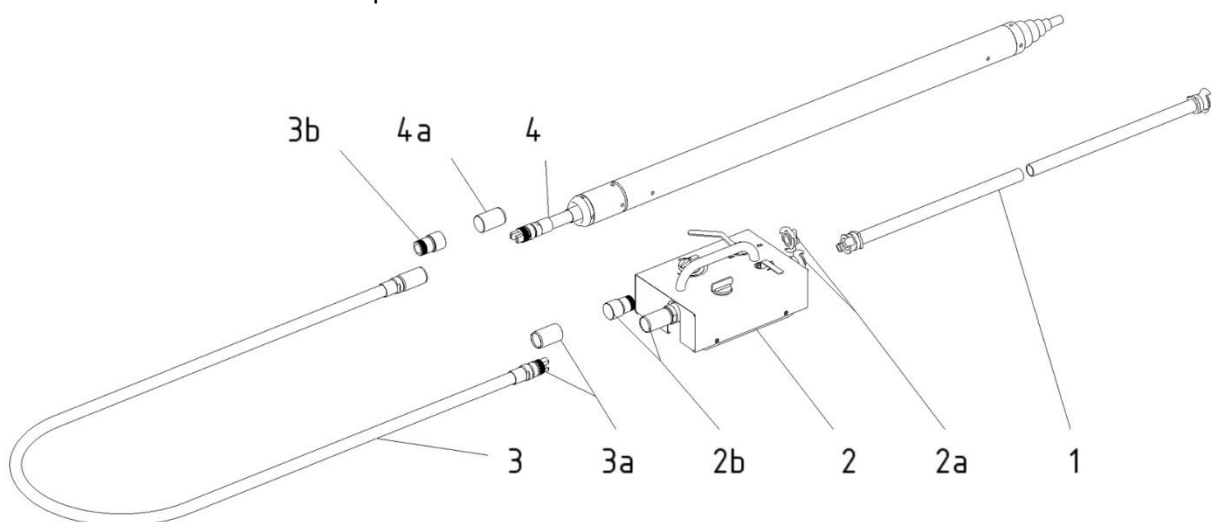

Figure 9.3.1.
To connect the air hose (Figure 9.3.1.) proceed as follows:
- Connect the Air hose (see Figure 9.3.1 Connecting the Air Hose).
- Move the direction handle in Forward position (F).
- e) When the MAX starts to operate, the air supply has to be reduced. It is necessary because the MAX has not plunged into the soil yet. In case of the full air supply valve opening at the lubricator (2), the MAX will begin moving reciprocally without any forward movement. Slowly opening of the valve ensures that the MAX will slowly navigate its way into the soil while remaining stable i.e. not moving from forward to backward.